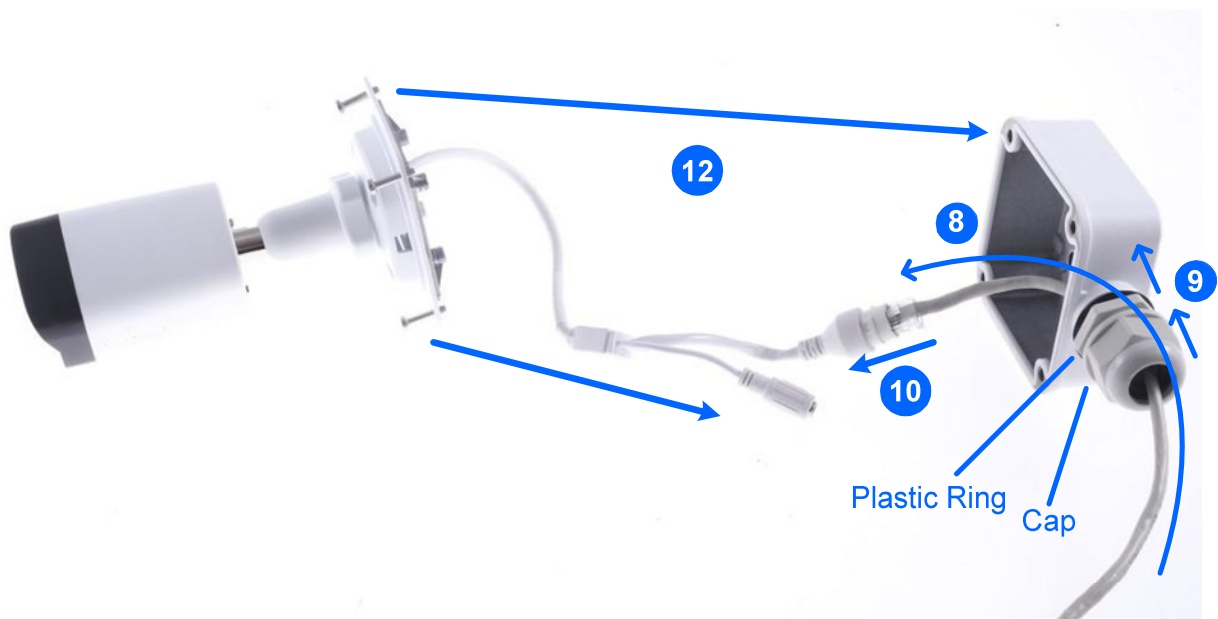

Figure 1-51
8. Thread the Ethernet cable through the PG21 conduit connector and the wall mount box as shown in No. 8, *Figure 1-51*.
9. Rotate the plastic ring to secure the conduit connector to the wall mount box. Screw in the cap as shown in No. 9, *Figure 1-51*.
12. Screw the wall mount box cover to the wall mount box as shown in No. 12, *Figure 1-51*.